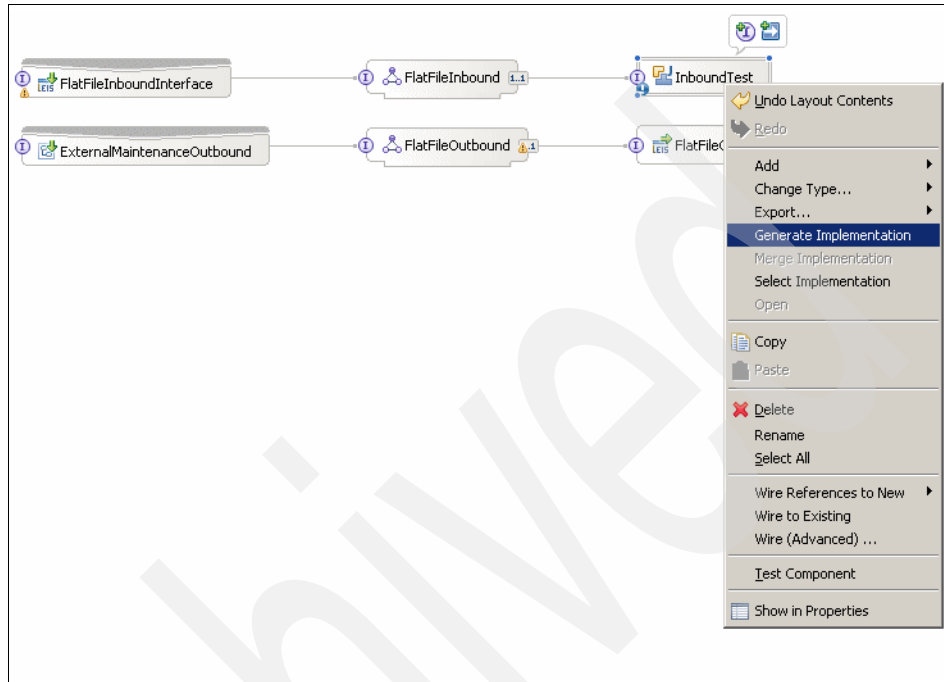

Figure 3-30 Generate implementation
5. Right-click the **InboundTest** component and select **Generate Implementation** (Figure 3-30).